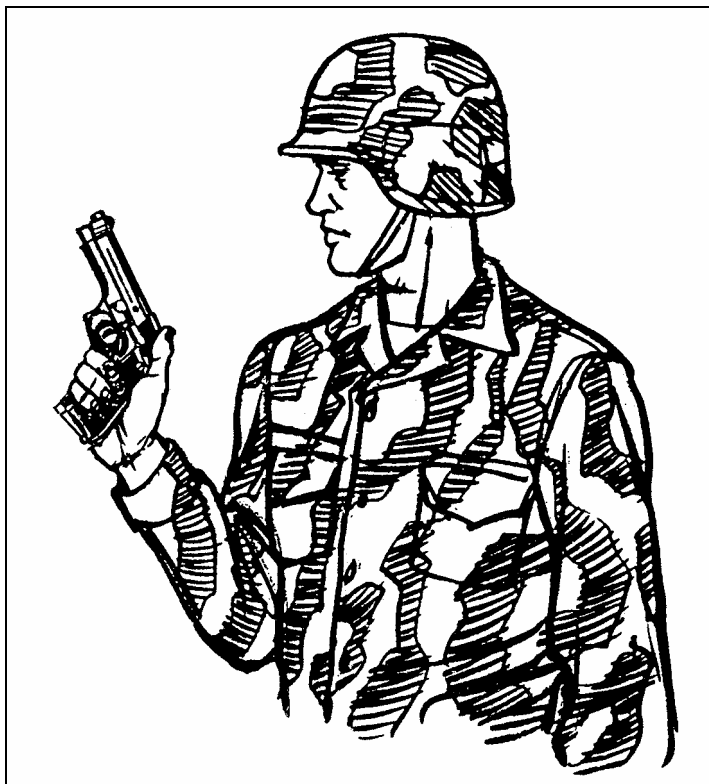

Figure 2-8. Pistol-ready position.
a. **Pistol-Ready Position.** In the pistol-ready position, hold the weapon in the one-hand grip. Hold the upper arm close to the body and the forearm at about a 45-degree angle. Point the weapon toward target center as you move forward (Figure 2-8).